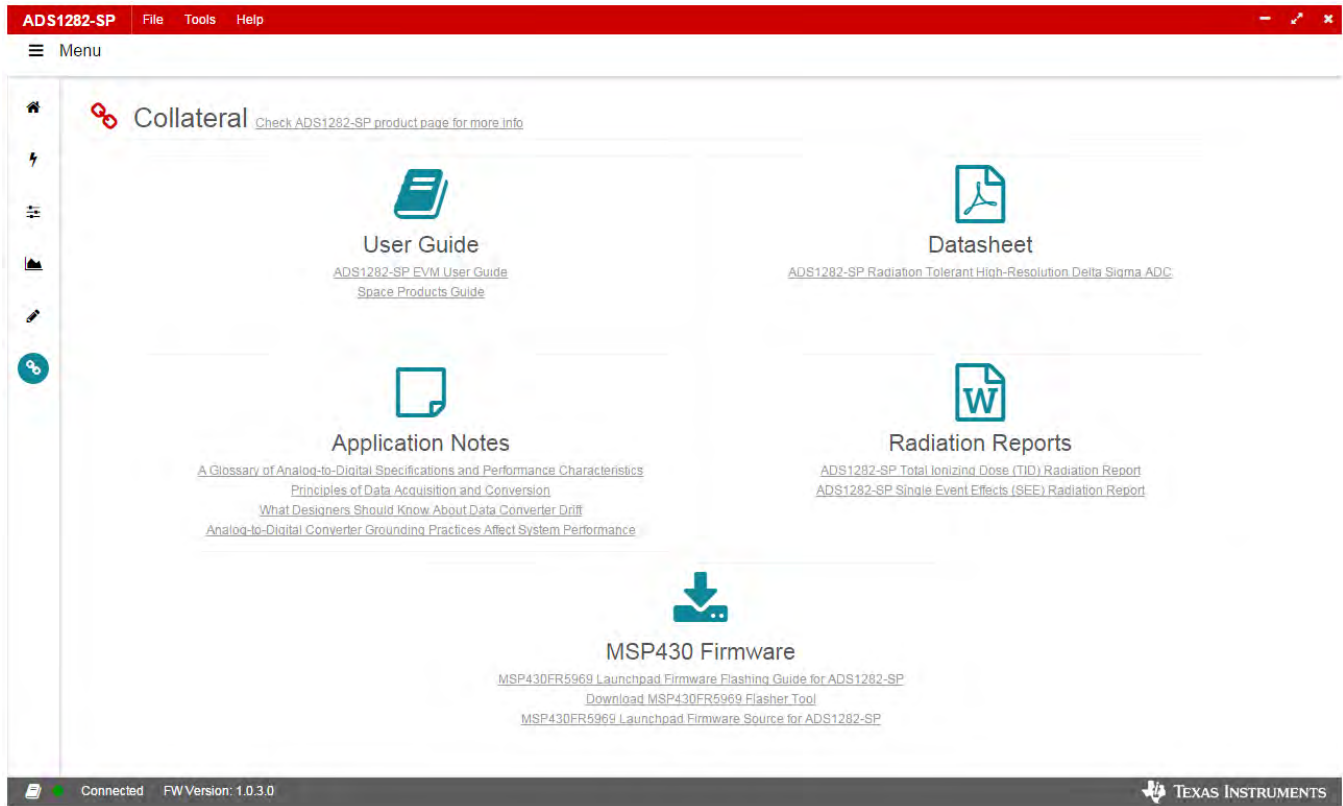

Figure 38. ADS1282-SP Collateral Page
The last page of the GUI is the **Collateral** page (Figure 38) which contains links to web documents pertinent to the ADS1282-SP and its EVM. The page is divided into five sections: (1) **User Guide**, (2) **Datasheet**, (3) **Application Notes**, (4) **Radiation Reports**, and (5) **MSP430 Firmware**.